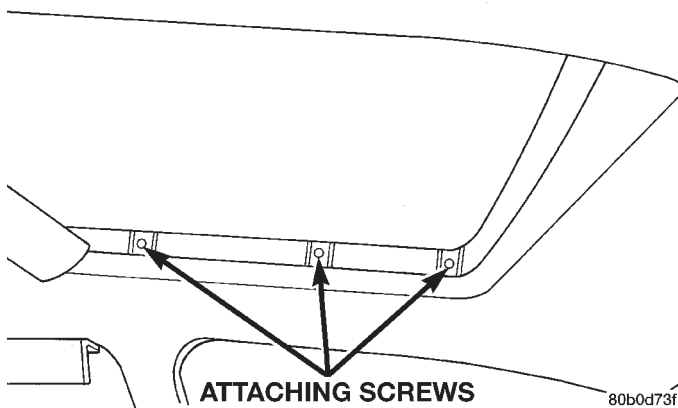

Fig. 4 Sunroof Glass Panel Screws
- (1) Slide sunshade rearward to the open position.
- (2) Move the glass panel to the vent position.
- (3) Remove the glass panel screws on each side (Fig. 4).
- (4) Lift off glass panel and remove from vehicle.